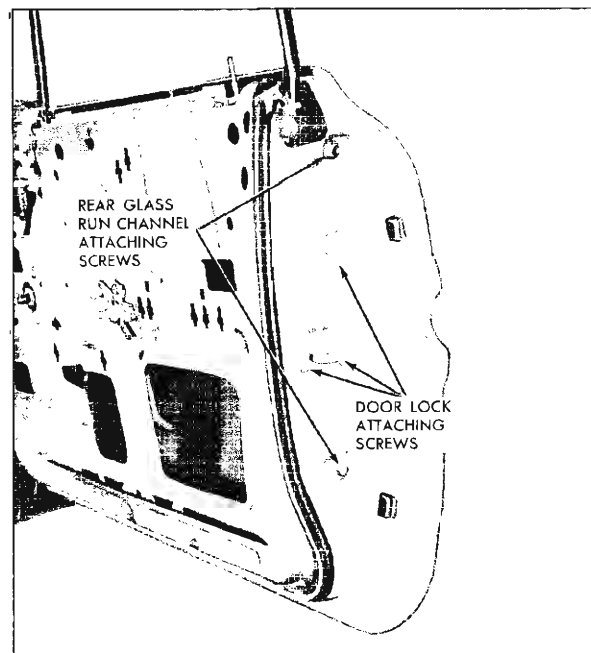

Fig. 3-21 Front Door Lock Pillar
4. Remove door lock attaching screws from lock pillar facing of door and remove lock assembly from door (Fig. 3-21).
4. To adjust upper rear of window assembly in or out for proper contact with side roof rail weatherstrip, or to adjust rear of window assembly in or out at belt line, loosen rear glass run channel attaching screws at lock pillar facing of door and screw at top of door inner panel. Position channel in or out as required and tighten screws (see Fig. 3-21).